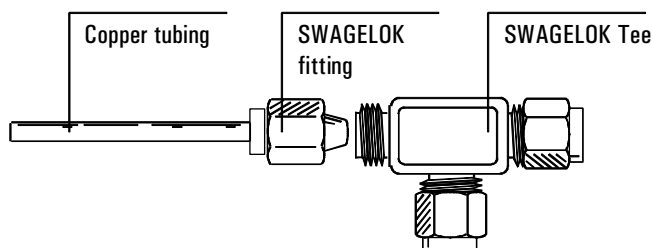

Figure 105. Attaching a SWAGELOK Tee
1. Cut the tubing where you want to install the Tee. Connect the tubing and Tee with a SWAGELOK fitting. See Figure 105.